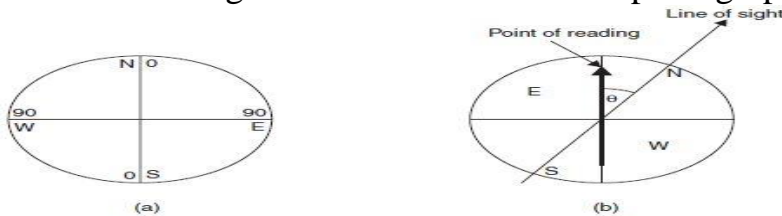
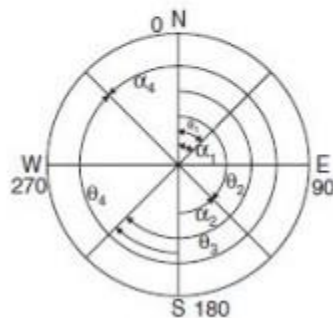

Fig. 13.3
Fig. 13.4
In reduced bearing (RB) system, bearings are measured from north or south direction towards east or west. Hence, angles are from 0 to 90° as shown in Fig. 13.3. This system of measuring bearings is used in Surveyor's compass and it is also known as Quadrantal Bearing (QB). The bearing measured is designated with letter N or S in the beginning to indicate whether it is from north or south. The letter E or W written after the angle indicates whether the bearing read is towards east or west, respectively. The conversion of the bearing from one system to the other system can be easily carried out by drawing a sketch to indicate WCB or RB as shown in Fig. 13.4. It may be observed that conversion table is as given below: